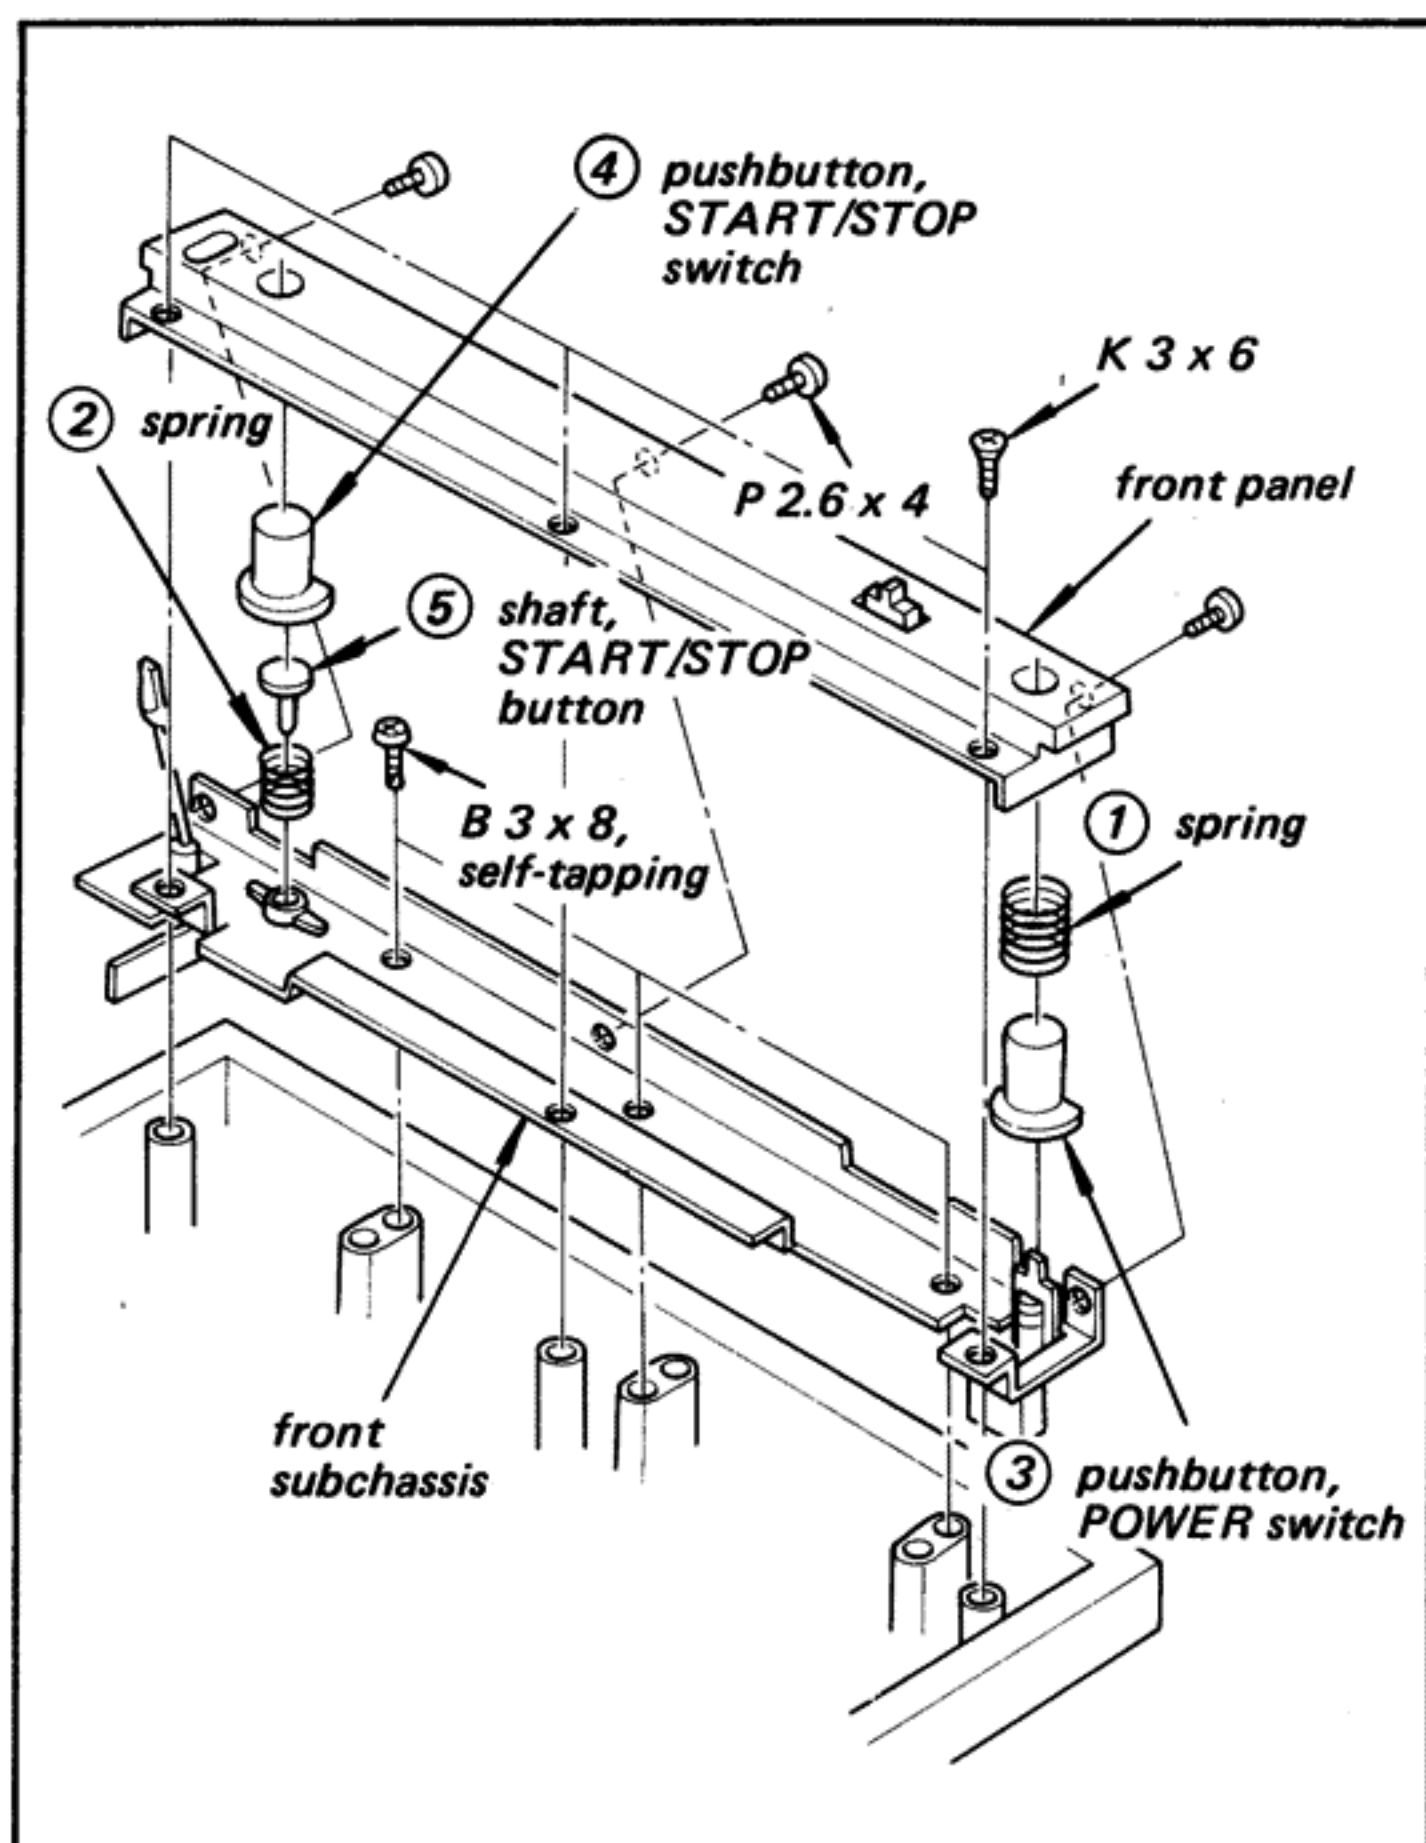

Fig. 2-12. Front panel/front subchassis removal
2. Remove the front panel carefully by removing the three screws (P 2.6 x 4) and the three screws (K 3 x 6) shown in Fig. 2-12.
3. Remove the springs ① ②, pushbuttons ③ ④, and START/STOP button shaft ⑤ shown in Fig. 2-12.
4. Remove the front subchassis by removing the three screws (B 3 x 8, self-tapping) shown in Fig. 2-12.